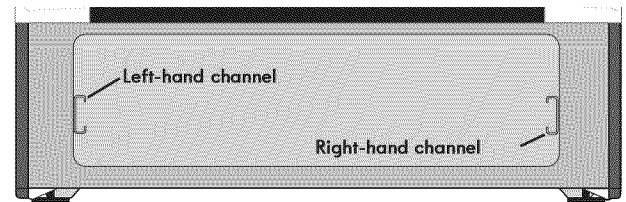

Fig. 2
2. Carefully line up both sides of the warmer drawer glide rails to the outer compartment glide channels located inside the empty warmer drawer compartment (See Fig. 2).